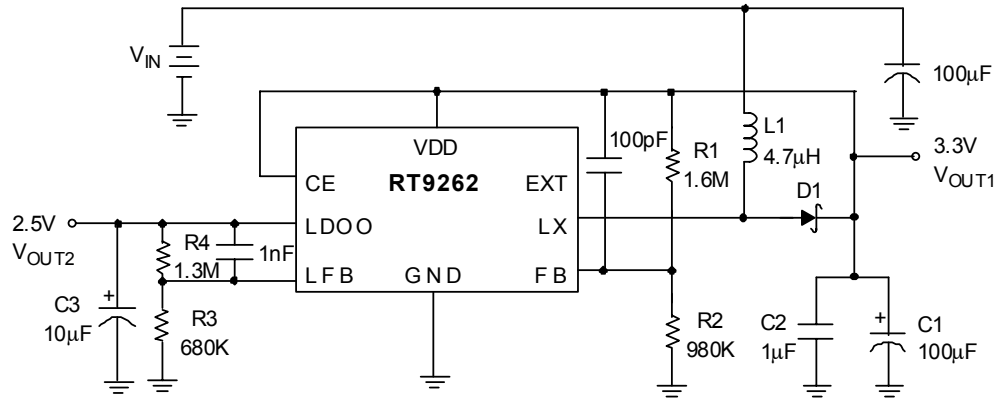
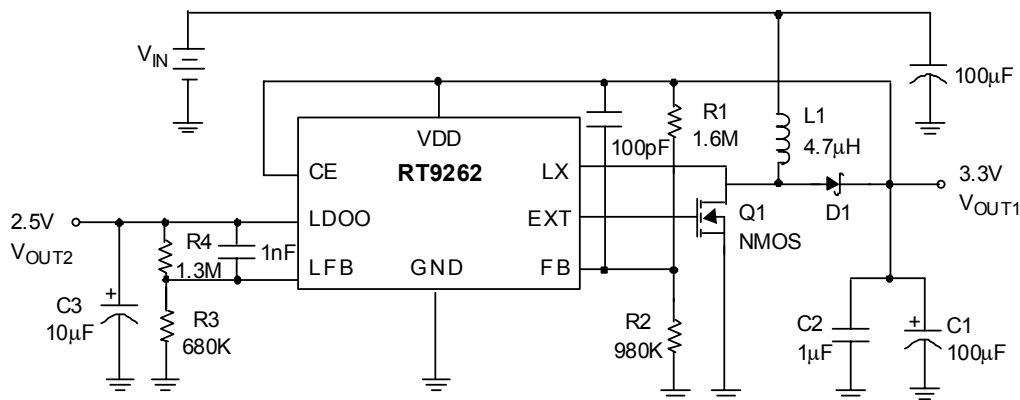
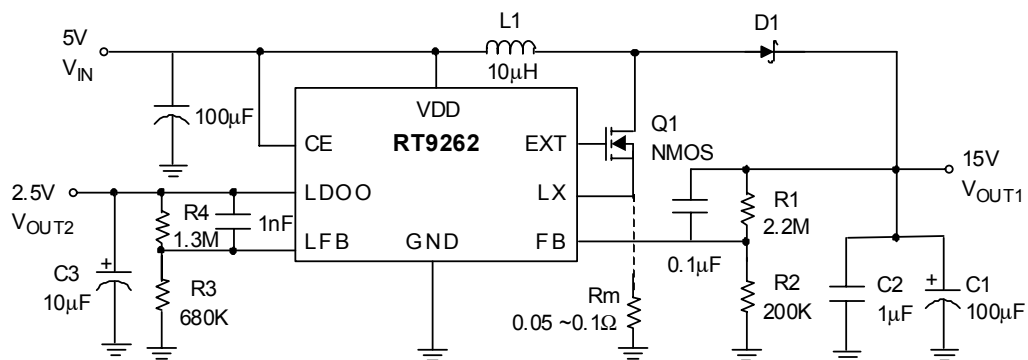

Fig. 1 RT9262 Typical Application for Portable Instruments below 400mA
Fig. 4 0.4A ~ 2A Output Current Application
Fig. 5 High Voltage Application ( $R_m$  should be added when  $I_L > 100mA$ )
Referring to application circuits Fig.1 to Fig.5, the output voltage of the switching regulator ( $V_{OUT1}$ ) can be set with Eq.1.
Referring to application circuits Fig.1 to Fig.5, The selection of R1, R2, R3, and R4 based on the trade-off between quiescent current consumption and interference immunity is stated below:
- A proper value of feed forward capacitor parallel with R1 (or R4) on Fig.1 to Fig.5 can improve the noise immunity of the feedback loops, especially in an improper layout. An empirical suggestion is around  $100pF \sim 1nF$  for feedback resistors of  $M\Omega$ , and  $10nF \sim 0.1\mu F$  for feedback resistors of tens to hundreds  $K\Omega$ .
- The following diagram is an example of 2-layer board layout for application circuits Fig.1 to Fig.4.